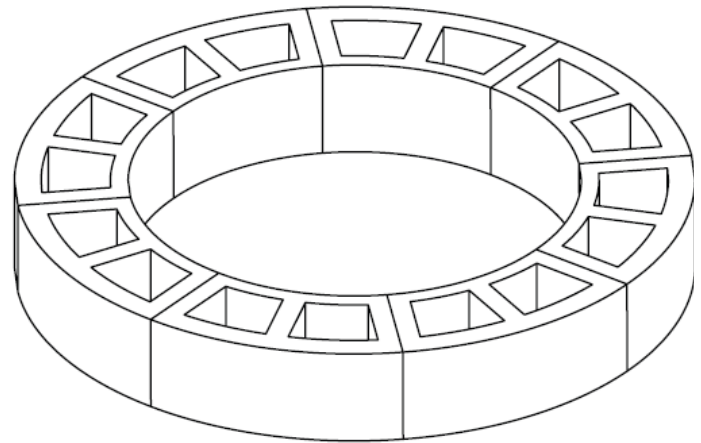

Figure 6 - Laying First Layer of Blocks
2. Use 8 blocks to build the first layer (See Figure 6). After laying out all blocks, using a level, verify all the blocks are level. Shim if necessary.